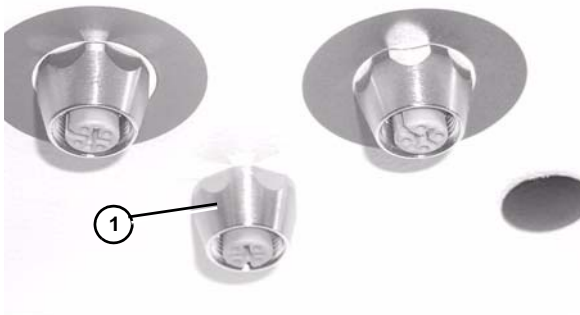

Figure 15
1. Connect push button to user selectable port (Figure 15, item 1).